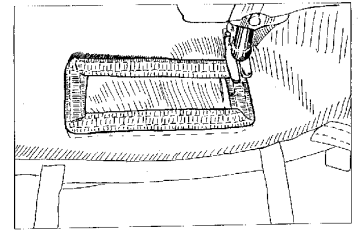

Figure 11
- 2.6 Install the pocket on the outside of the backpad using the single needle. Stitch directly on top of the outside row of stitching. Backtacking at each corner will reinforce the pocket. Figs. 11 & 12.